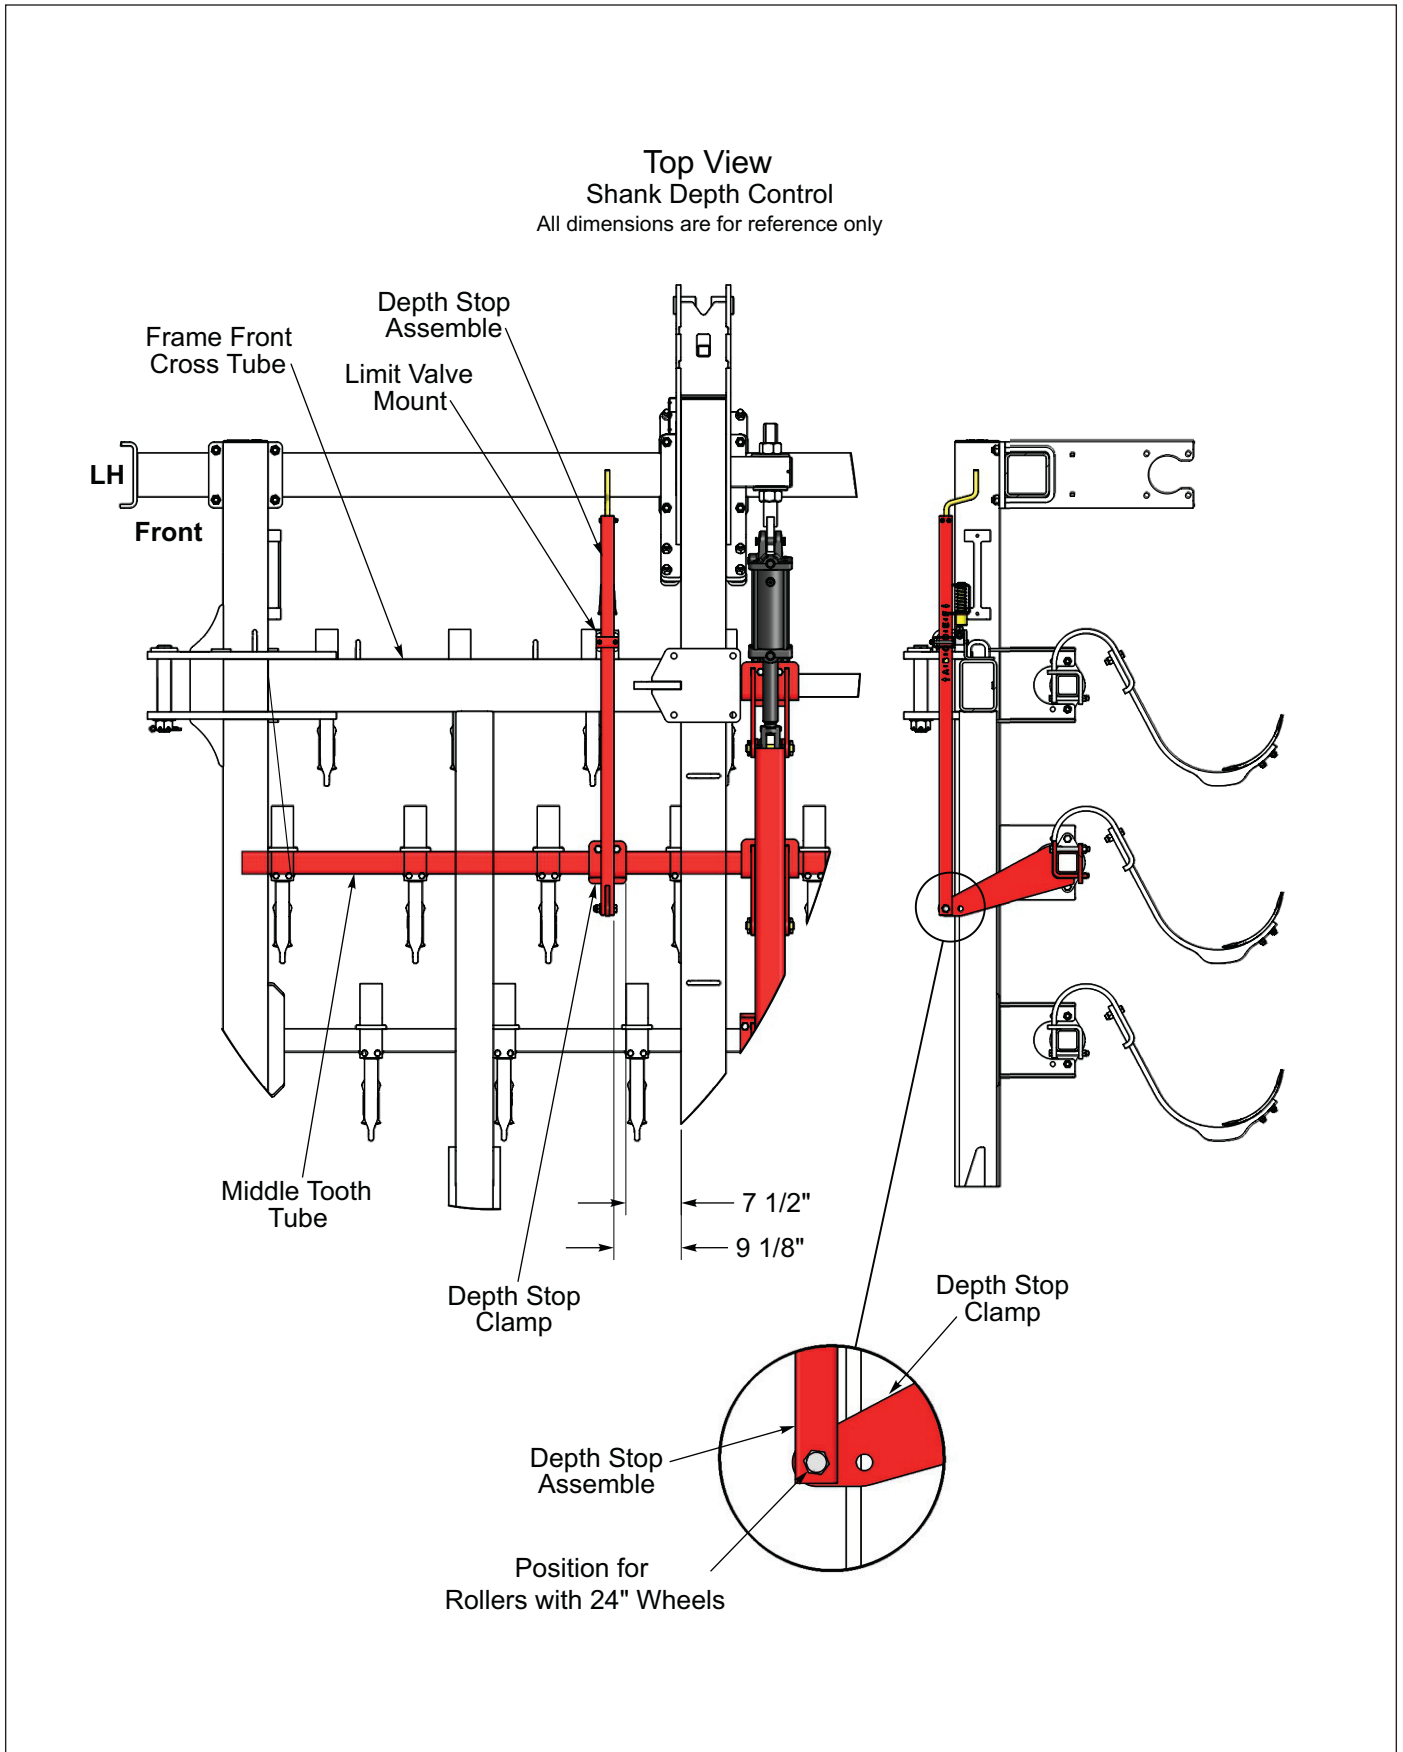

Figure 2-42: Shank Depth Control Installation Dimensions
3. Slide the Depth Stop Assembly through the Depth Stop Guide to the Depth Stop Clamp. Position the Depth Stop Assembly over the Depth Stop Clamp Lug and align the Top hole of the Depth Stop Clamp for machines with the 24" Roller Wheels. Insert and secure with 5/8-11 x 2-3/4 Bolt and Flanged Locknut. **See Figure 2-42.**